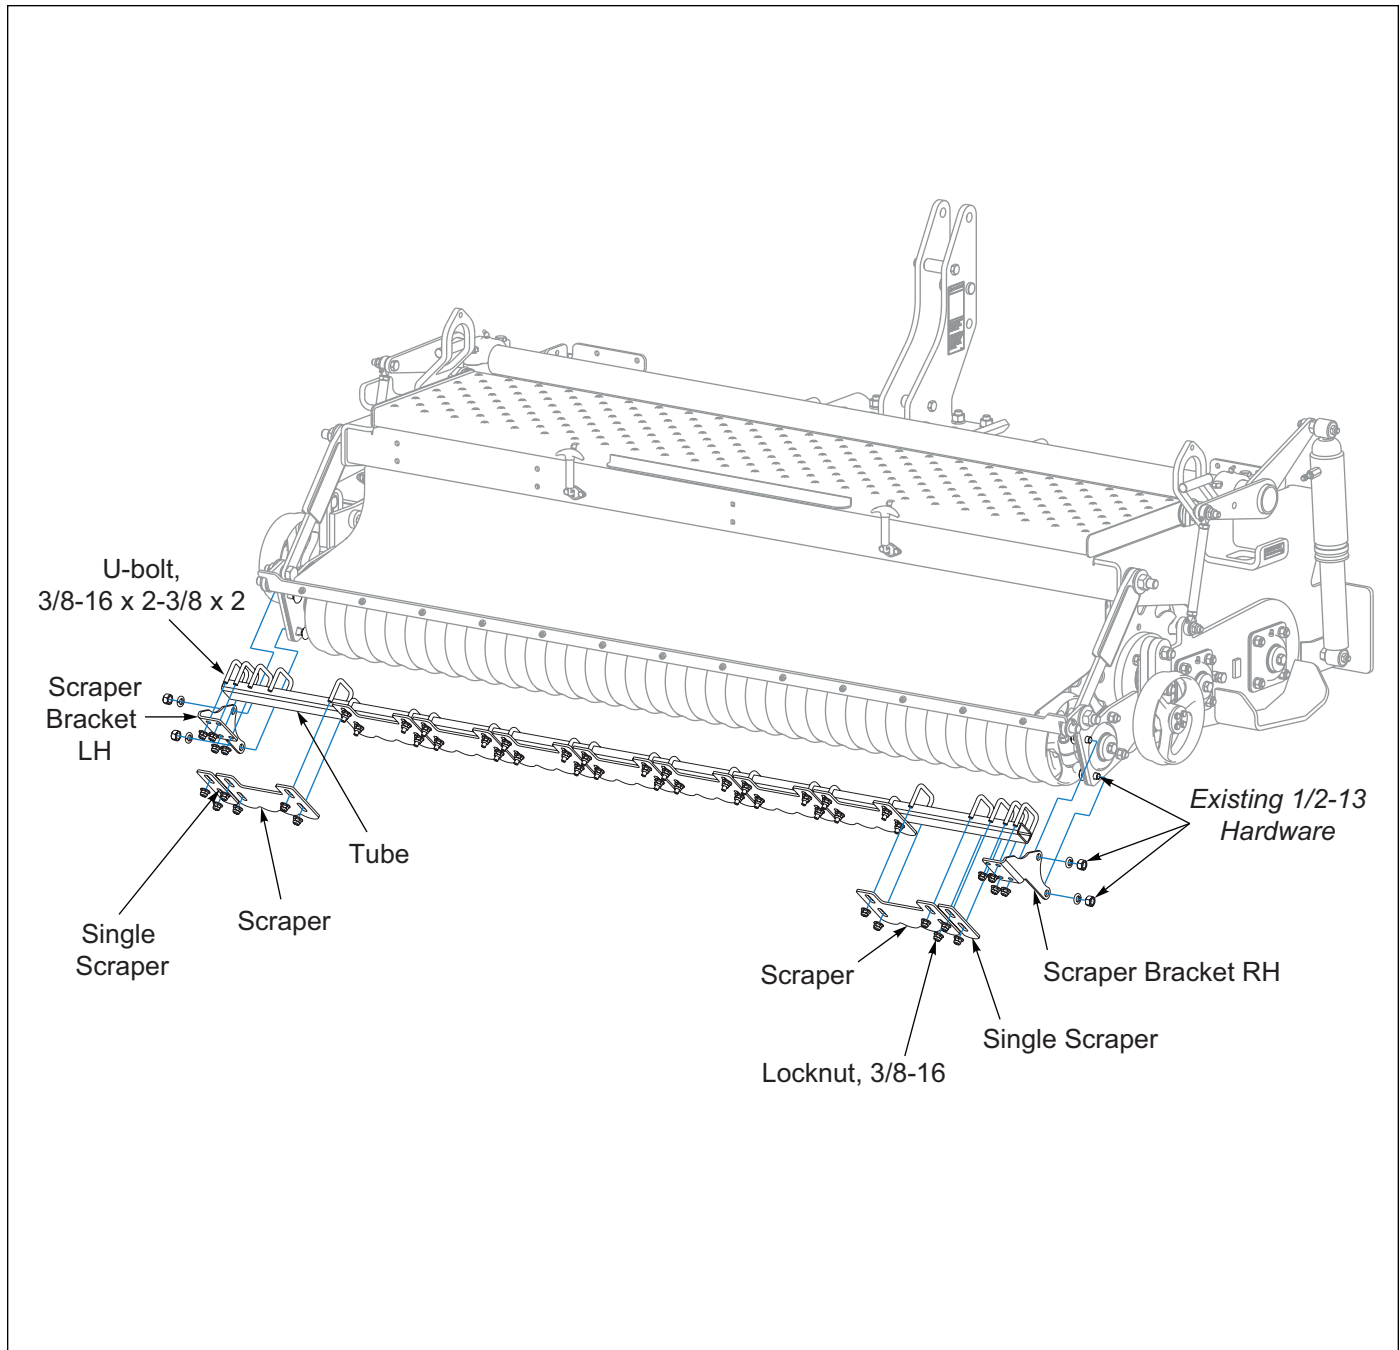

Figure 3-6: Rear Roller Scraper - Optional
1. With the Rear roller on level ground, remove the Rear Roller Bearings two rear 1/2-13 Nuts and Lockwashers and install the RH and LH Scraper Brackets. Secure by re-installing hardware. **See Figure 3-6.**